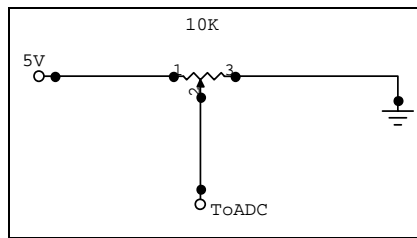

Figure 2: Voltage Divider using a Potentiometer
1. Construct a voltage divider on your breadboard using the supplied potentiometer and the +5V supply and ground as shown in Figure 2.